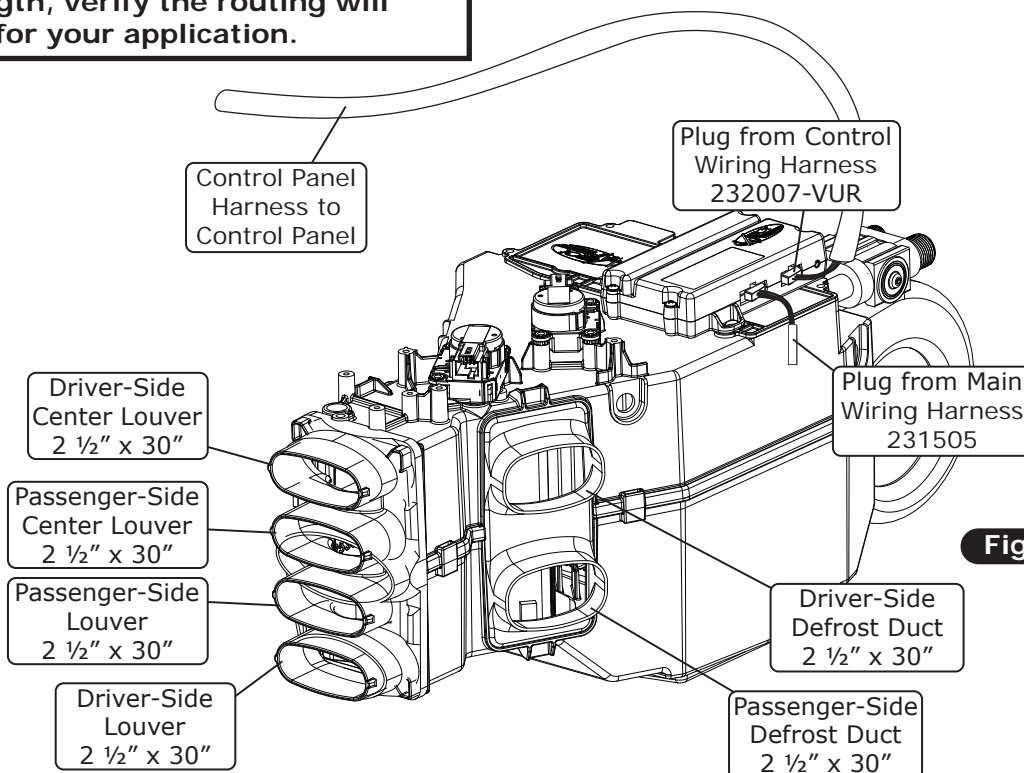

Figure 1
2. Refer to Figure 1, below, for duct hose routing.
3. Attach 30" of 2 1/2" duct hose to each hose adapter and connect to the evaporator as shown in Figure 1, below.